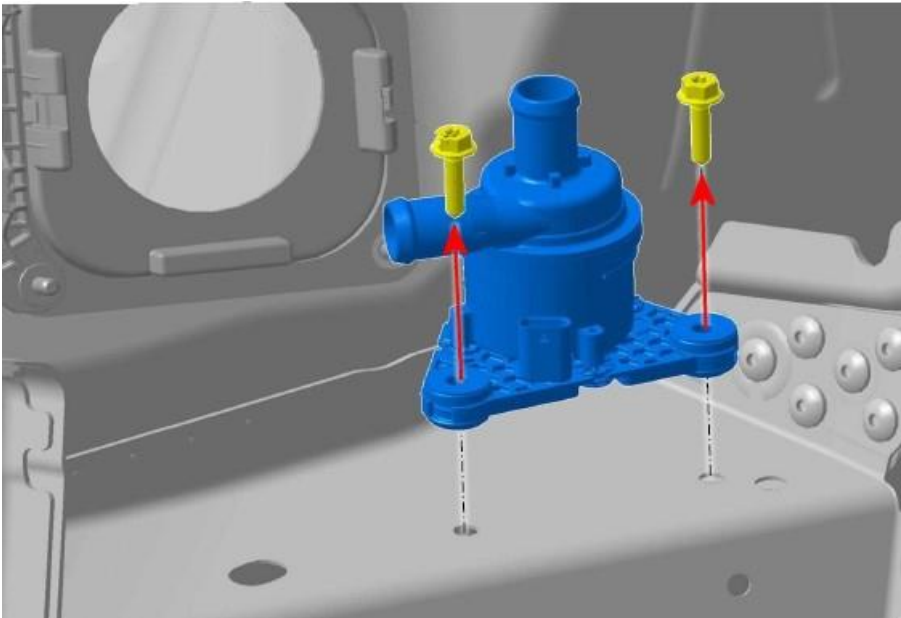

Figure 2
- Remove the two fixings securing the "Additional Coolant Pump" – figure 2.